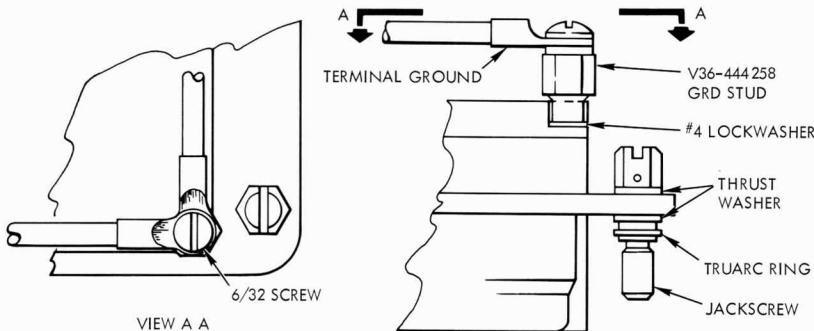

FIGURE 5
1. Place one thrust washer on the jack screw SEE FIGURE 5
3. Install no more than two ground wire lugs per stud. The crimp barrel of the terminal lug shall be oriented to minimize breakage and loosening see FIGURE 5.